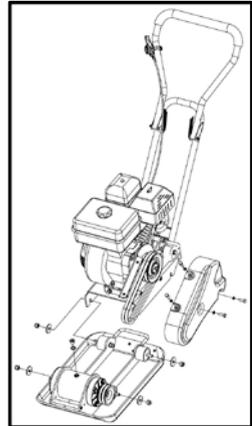

Fig. 10
2. Remove the belt guard and V-belt(s) (Fig. 10).
3. Remove the bolts that hold the deck to the housing (Fig. 10).